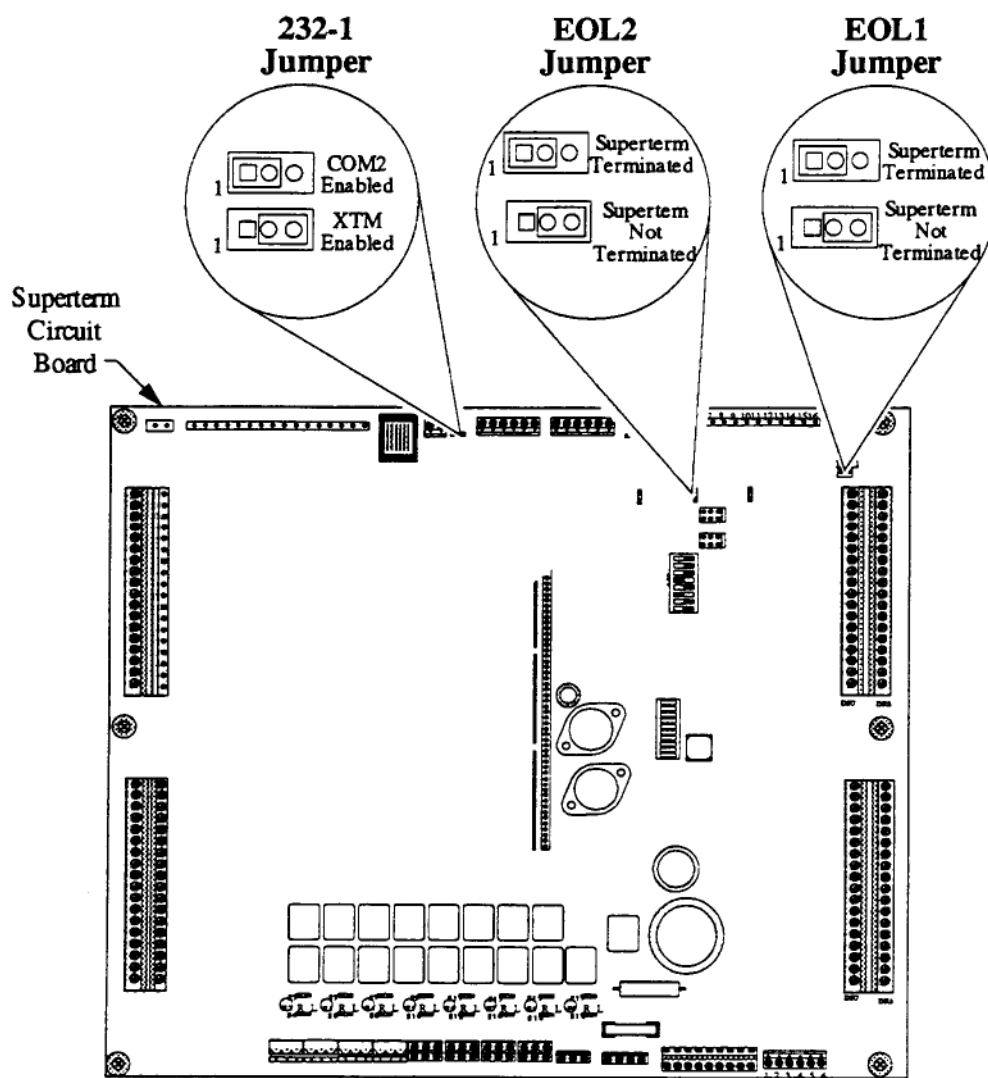

Figure 46 - 232-1, EOL1, and EOL2 Jumper Locations and Settings
- Set the jumper to contact the center post (pin 2) and the left-hand post (pin 1) (see Figure 46).
Set the jumper to contact the center post (pin 2) and the lefthand post (pin 1) (see Figure 46).